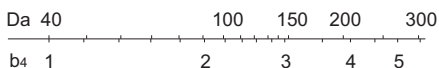

Fig.1 Dimension Factor
- C : Basic dynamic load rating (N)
- P : Equivalent radial load (N)
- b₄¹ : Dimension factor (see Fig.1)